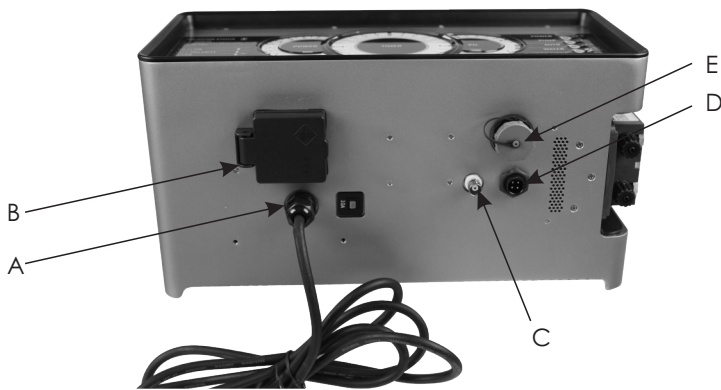

Fig. 2
7.2-CELL (Fig 2):
Proceed with the interconnections between the cell and the Control Panel according to the following drawing (Fig 2).